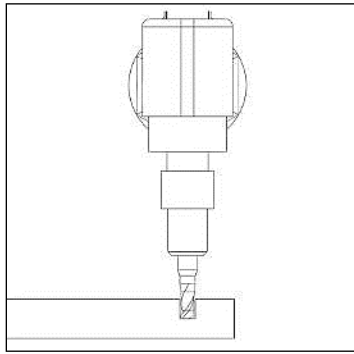

Figure 4. Initial Material Engagement
- 3.2.1. Place the cutting end of the GFR-Bit above gap filler to be removed. Fully depress the lever on the pneumatic 90 degree grinder. After the pneumatic grinder reaches full speed (approximately 6,000 RPM), slowly plunge the GFR-Bit into the gap filler until the GFR-Bit makes contact with the bottom of the gap. See **Figure 4**.